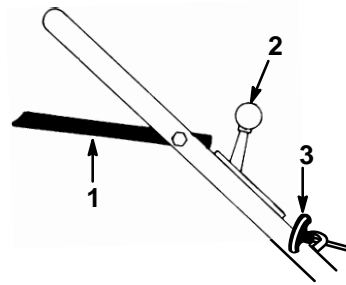

Figure 8
2. Move throttle to  (Choke) (Fig. 8).
3. Lift the blade control bail to the handle and hold. (Fig. 8).
4. Pull the starter handle lightly until resistance is felt, then pull it sharply (Fig. 8). Allow the rope return to the handle slowly. When engine starts, regulate throttle as desired. Allow the engine to warm up. During warm up, the equipment can be operated.